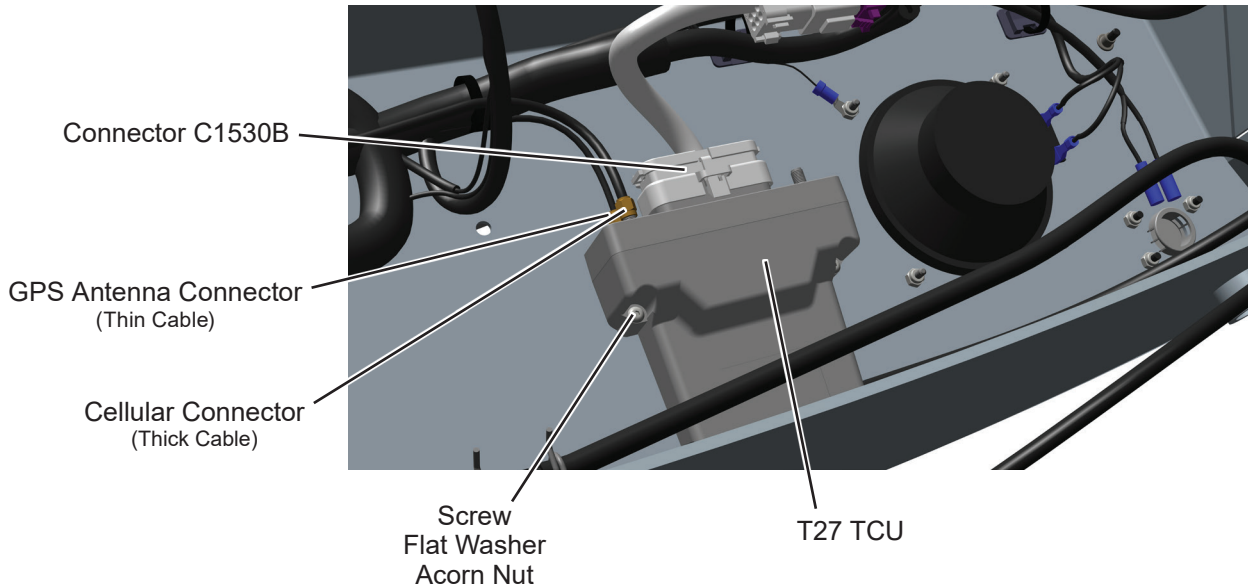

Figure 6
21. Reconnect connector C1530B to TCU. See Figure 6.
22. Reinstall cellular and GPS antenna connectors finger tight to TCU. See Figure 6. DO NOT use a wrench to tighten connectors or damage to connectors will occur.